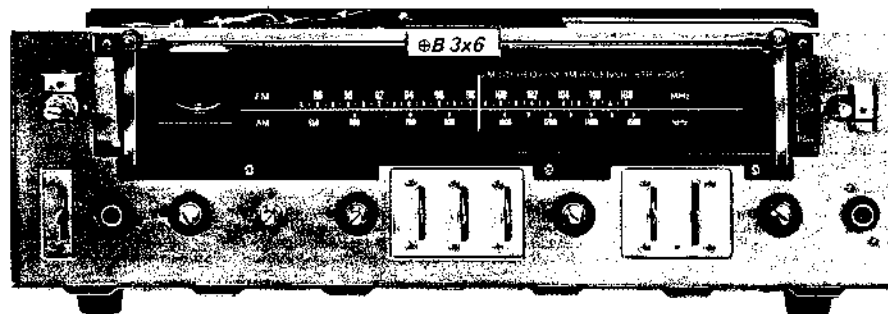

Fig. 2-12. Dial scale removal
3. Remove the two self-tapping screws (⊕B3x6) securing the dial-scale holder to the front sub-chassis as shown in Fig. 2-12.